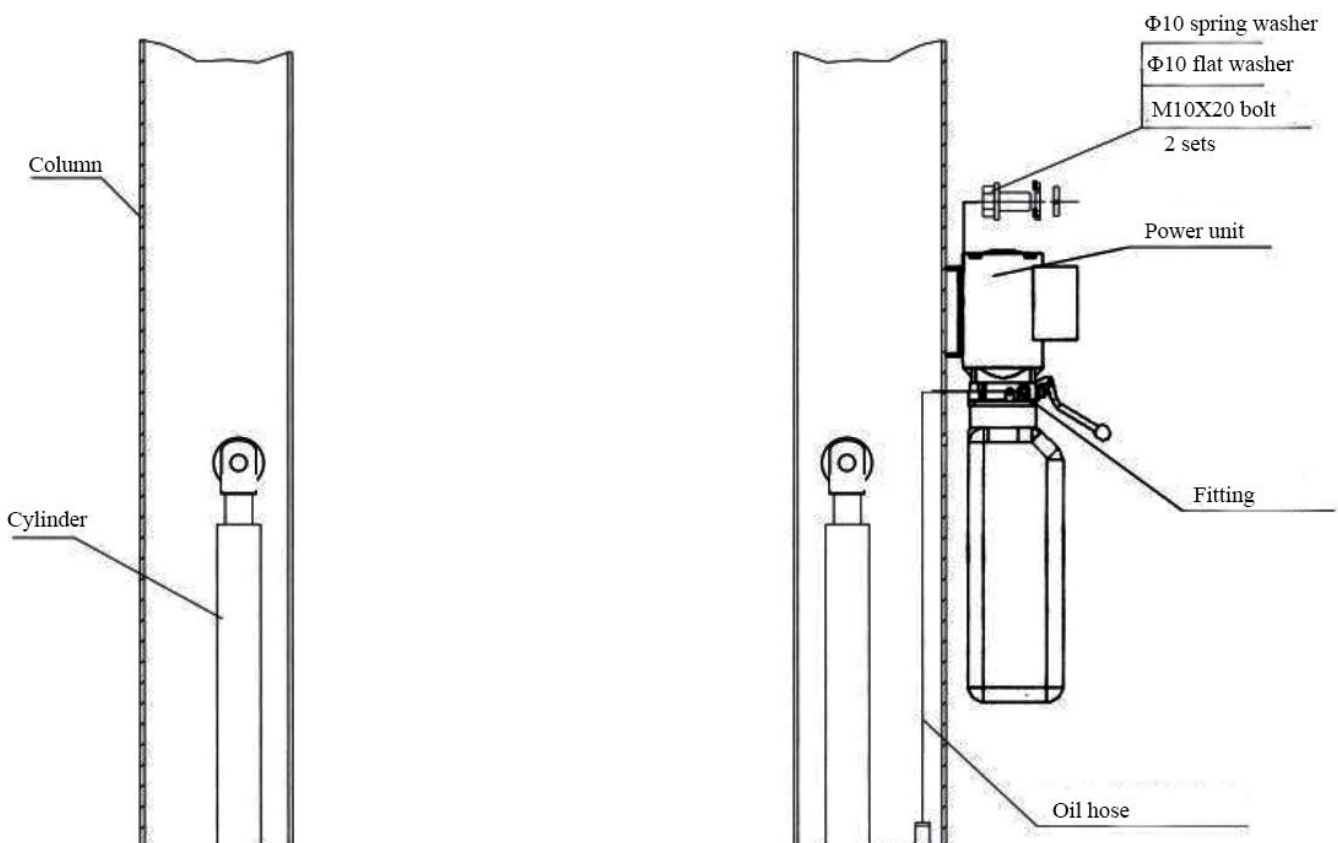
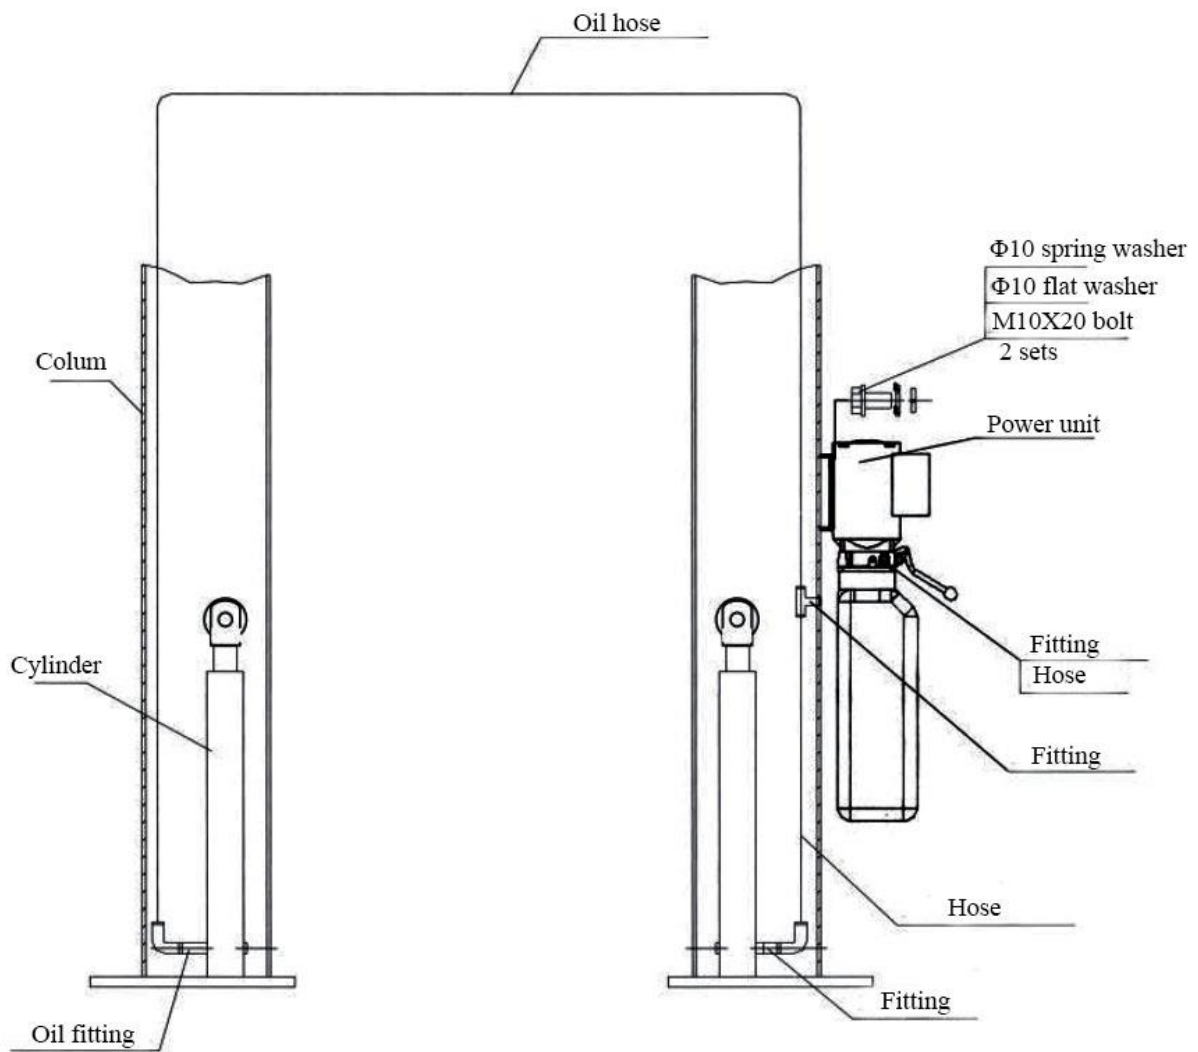

Fig.12a
Fig.12b
- Use two M10 Bolt s and washers to fix the power unit (as shown in Fig. 12a、 12b). for **clear floor** models, install the hydraulic line as shown in Fig. 12b, for **floor plate** models, install the hydraulic line as shown in Fig. 12a and tighten all the fittings top revert oil leakage.